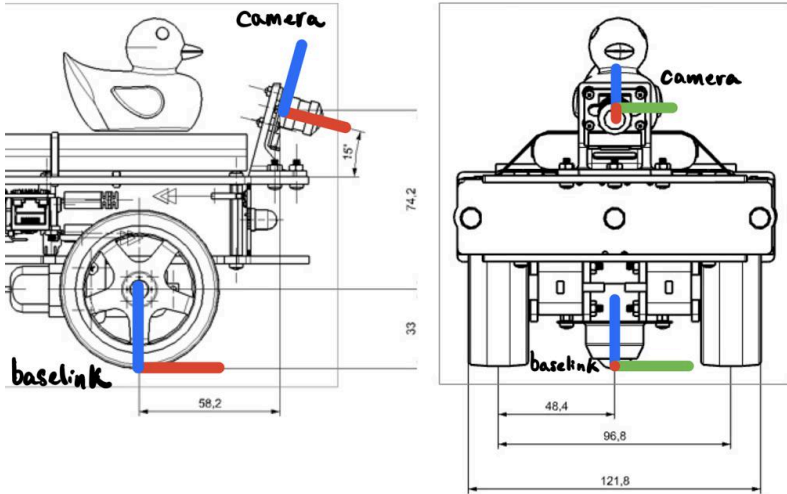
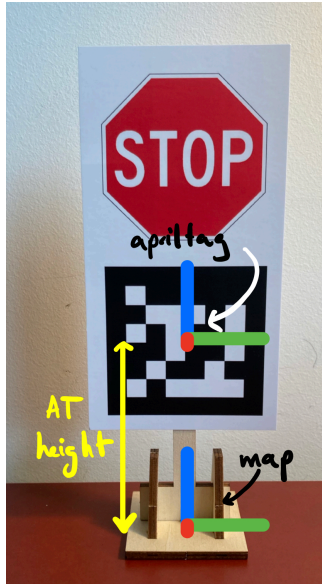

Figure 4.2. Position of the baselink and camera frames on the robot
Figure 4.3. Example traffic sign to be used for Apriltag localization. In order to accurately construct your TF tree, please measure the height indicated
- `transform`: a 2D pose of the robot baselink (see Figure 4.2 for a definition of this frame).
A common way of getting rid of drift in mobile robots is to either use absolute position measurements (with GPS, for instance) or to use fixed landmarks in the world as reference. This is how we humans also navigate the environment. Since there is no GPS on-board the Duckiebot, we will have to use the latter approach. This is what we will explore in the next exercise, where our landmarks will be traffic signs with Apriltags (see Figure 4.3).
- `transform`: a 3D pose of the robot baselink (see Figure 4.2 for a definition of this frame).
) use Figure 4.3 as reference. To calculate the static transform between the baselink and camera frames, you can use Figure 4.2 as reference, or you can try to use the homography matrix obtained during extrinsic calibration.